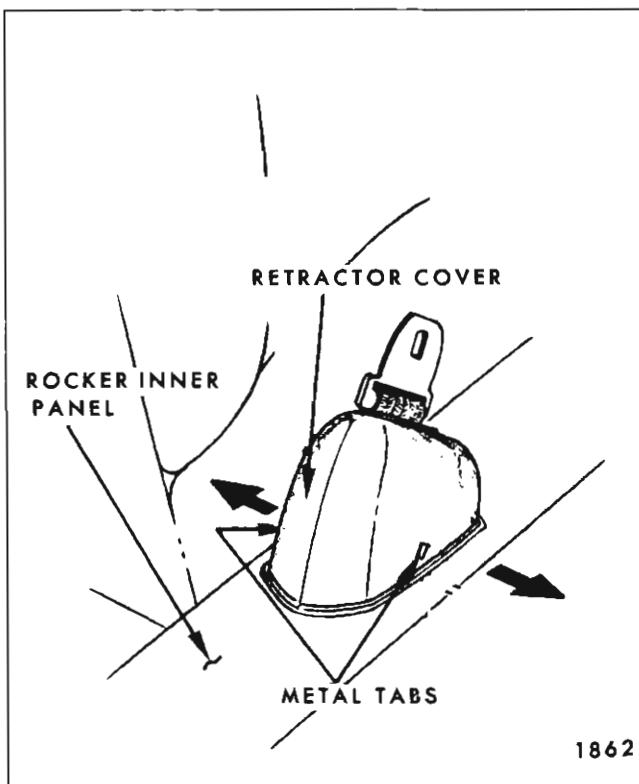

Fig. 1H47—Removal of Seat Belt Retractor Cover — All except 15000 — 16000 Series
1. Using fingers, gently squeeze retractor cover at forward and rearward ends to spread sides of cover outward sufficiently to disengage cover from metal tabs on sides of retractor base. (See Fig. 1H47).
2. Lift up cover to expose bolt securing seat belt retractor. (See Fig. 1H48).